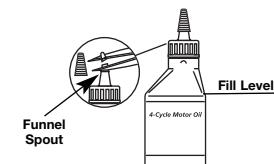

Fig. 6
Your unit is supplied with one 3.04 fluid oz. (90 ml.) bottle of SAE 30 SF, SG, SH oil (Fig. 6).
1. Unscrew the top of the bottle of oil and remove the paper seal covering the opening. Replace the top. Next, cut the tip off of the funnel spout (Fig. 6).